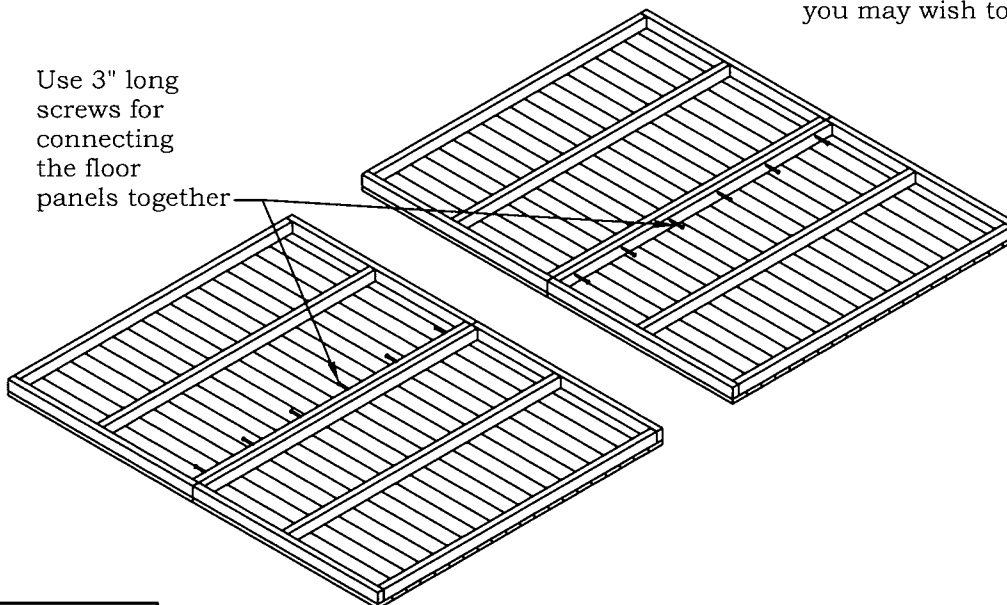

FIGURE F5
- Using 3" long screws, fasten the floor sections together from the bottom and then flip them over so the decking is facing up again as shown in Figure F5.